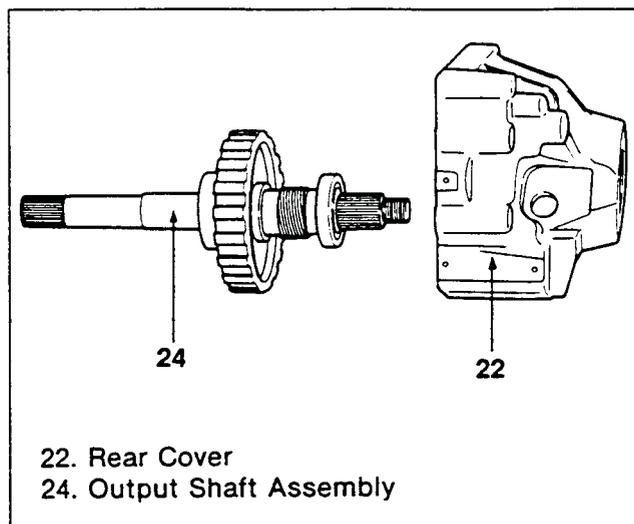

Figure 247. Rear Cover and Output Shaft Installation (1)
(Figures 247, 248, 249, 250, 251 and 252)
2. Install the output shaft assembly to the rear cover (Figure 247).